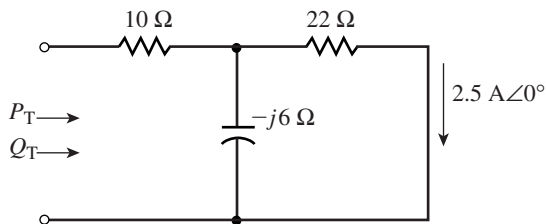

FIGURE 17-40
14. For Figure 17-40, determine P_T and Q_T .